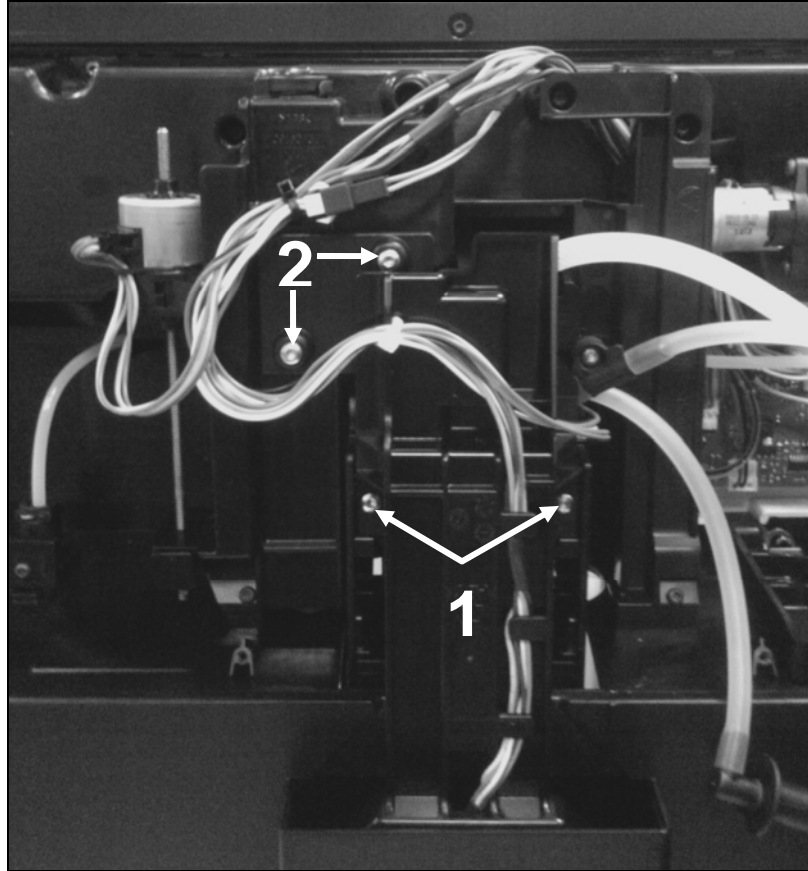

Figure 001-51: Spout Holder and Pin Bracket, CVA 680x
4. Remove the T10 screw securing the auxiliary electronic cover (refer to Figure 001-51, Item 1); take off this cover.
2. Remove the two T10 screws securing the spout holder (Figure 001-51, Item 1).
3. Remove the two T10 screws securing the “pin” bracket behind the spout holder (Figure 001-51, Item 2).
4. Remove the two T10 screws securing the spout holder (Figure 001-51, Item 1).
5. Remove the two T10 screws securing the "pin" bracket behind the spout holder (Figure 001-51, Item 2).
5. Remove the two T10 screws securing the “pin” bracket behind the spout holder (Figure 001-51, Item 2).